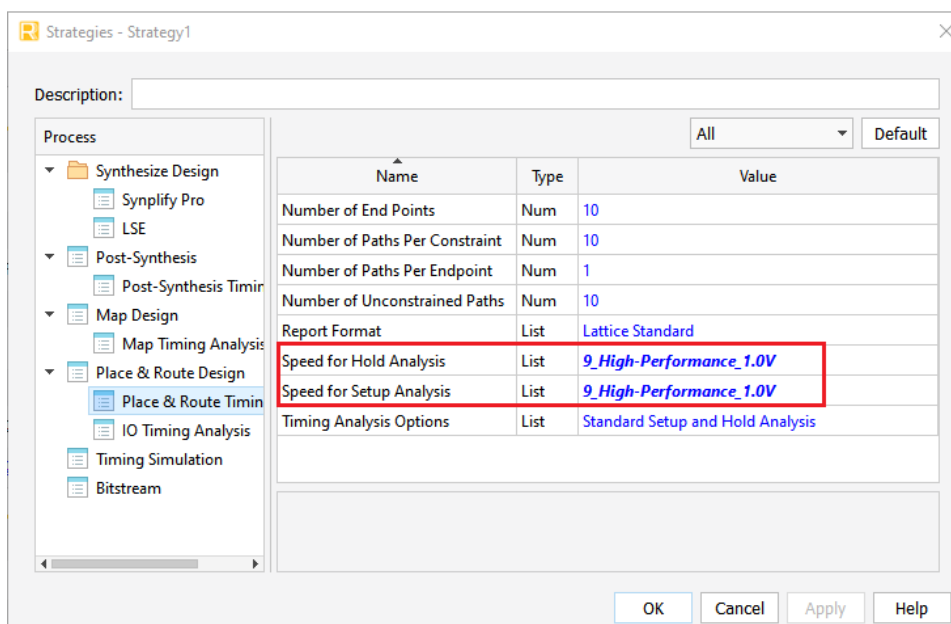

Figure C.63. PAR Timing Analysis Setting for Main System Bitfile Generation
13. Select **Place and Route Timing Analysis** and only apply the settings shown in Figure C.63.